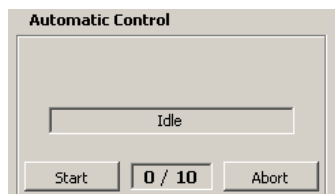

Figure 3.15.3: Automatic Control mode in idle stage
- Back in the Scan tab, the **Automatic Control** is shown as Figure 3.15.3, click start while the shaker is off